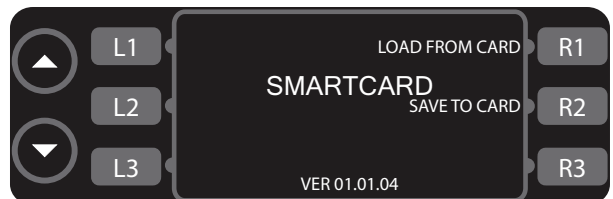

Figure 11: Smart Card Screen
2. Press L3 (fig. 8) to access the smart card screen (fig. 11).
- Press R1 to load a menu from the smart card to the oven (fig. 11).
-Press R2 to save a menu from the oven to the smart card (fig. 11).